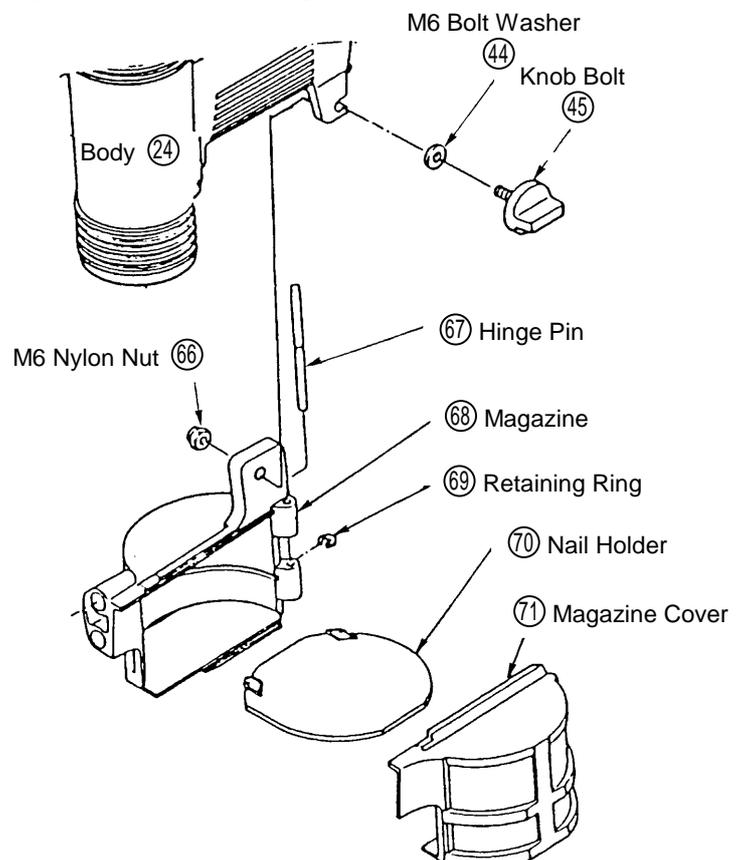

Fig. 24
- (1) Disassembly: (Refer to Fig. 24)
- Loosen the Knob Bolt (45), and extract the Magazine (68) backward. The Magazine (68) and related parts can then be disassembled from the Body (24).
- Insert a minus screwdriver into a gap between the Magazine (68) and magazine Cover (71), and remove the Retaining Ring (69). The Magazine Cover (71) can be taken off by extracting the Hinge Pin (67).
- (2) Reassembly: (Refer to Fig. 24)
- Assemble the Retaining Ring (69) onto the groove of the Hinge Pin (67), and check that the Retaining Ring is properly rested in the groove.